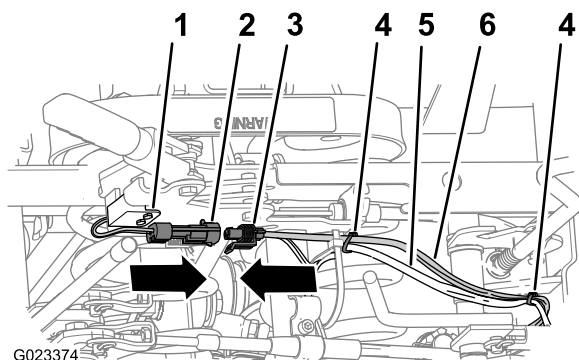

Figure 29
- Route the branch of the wiring harness for the kit with the 2-pin connector forward to the parking-brake switch (Figure 29) that you installed in 5 Installing the Parking-brake Switch (page 7).
- Connect the 2-pin socket connector of the wiring harness of the kit to the 2-pin connector of the wiring harness of the parking-brake switch (Figure 29).
- Secure the wiring harness of the kit to the rear-main harness at the 2 location shown in Figure 29.